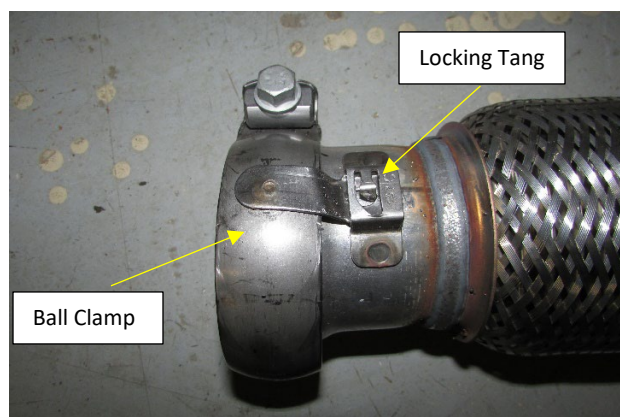

Figure. 4
1. Bend the small locking tang of the OEM band clamp to unlock it from the OEM Muffler inlet pipe. Remove the band clamp from the OEM Muffler Inlet pipe. **Fig.4**